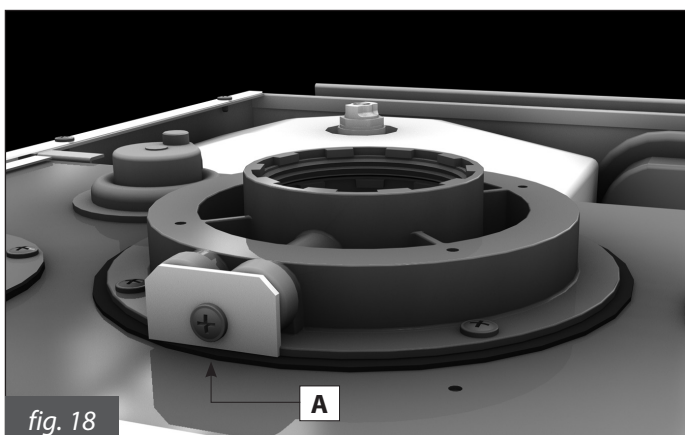
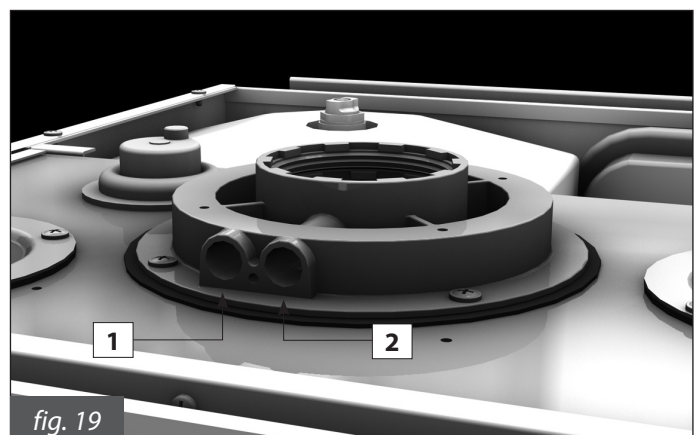

fig. 18
fig. 19
The boiler is equipped with a tower allowing for air intake/flue gas discharge duct connection (fig. 18 and 19). The tower is designed with two pre-arranged openings directly accessing combustion air and flue gas ducts (fig. 19).
Remove cap **A** from the pre-arranged openings on the tower, before starting combustion checking procedure (fig. 18).
- assess combustion air from no. 1 opening (fig. 19).
- assess flue gas temperature and CO₂ from no. 2 opening (fig. 19).